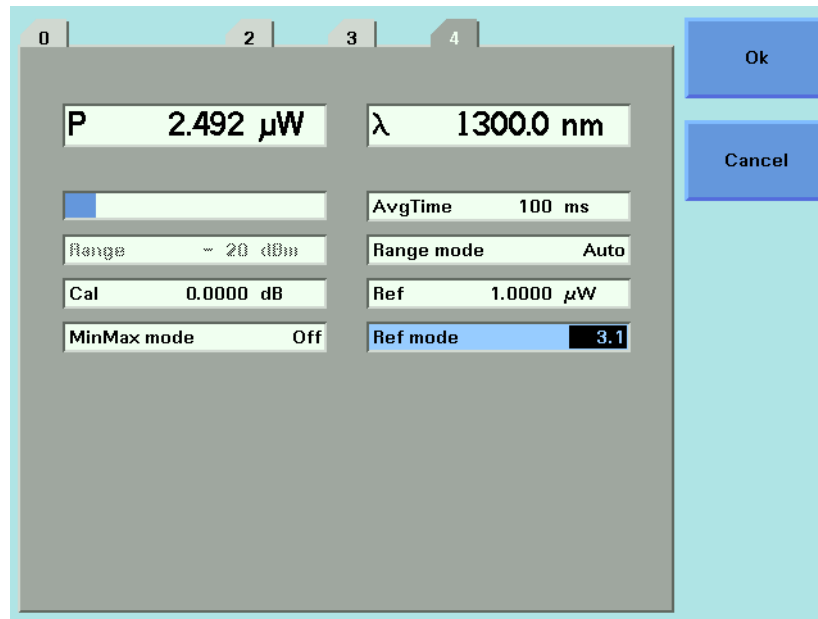

Figure 43 Referencing Another Channel
- 3 Move to the channel number you want to reference, using the cursor key, and press Enter. For example, in Figure 43, you could choose 3.1 (for channel 3.1). Refer to “Slot and Channel Numbers” on page 40 for information on channel numbers.